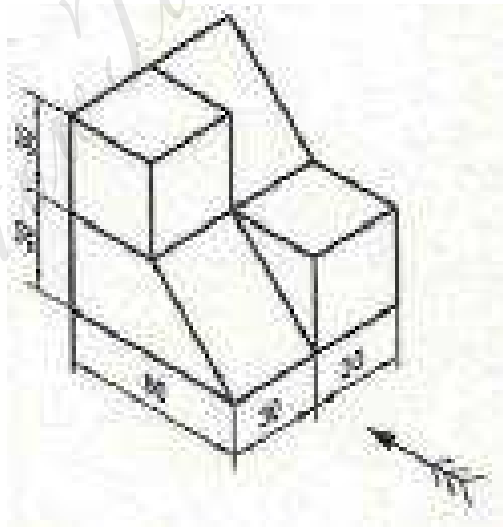

Figure 8
8. Draw the orthographic views of the object as shown in the figure 8. (all dimensions are in mm).